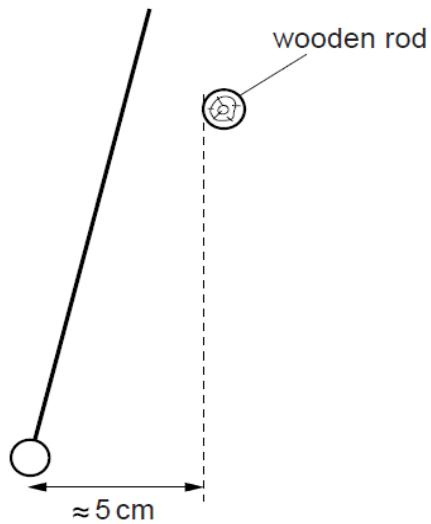

Fig. 1.3
- (b) (i) Move the bob sideways through a distance of approximately 5cm, as shown in Fig. 1.3.